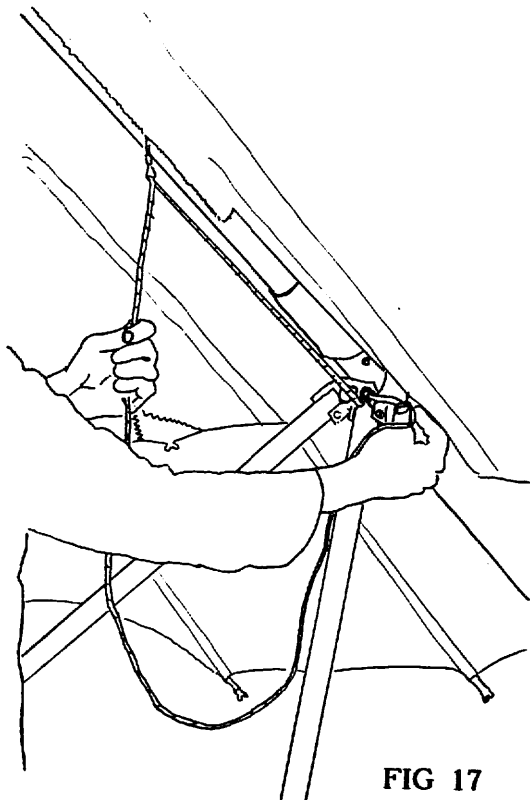

FIG 17
13) Remove the wingnut and safety from the bolt which is secured to the crossbar sweep wire. (The wire attached to the crossbar center.) Insert the free end of the piece of leech line which is attached to the control bar top through the thimble in the shortest of the three wires which make up the crossbar sweep wire. (Fig 17) Then pass the end of the leech line through the grommet in the tang which is bolted to the top of the control bar leg. (Fig 17)